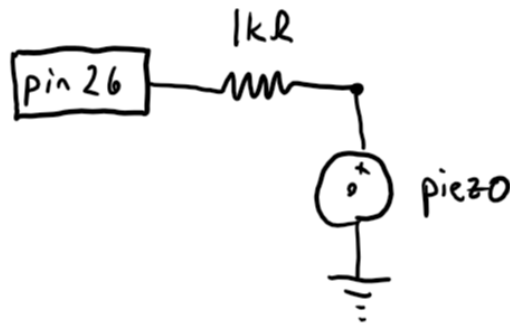

Figure 4: Circuit for the piezo “buzzer.”
3. (The pin for this circuit needs confirmation – coming soon!) Build the piezo buzzer circuit in Figure 4.